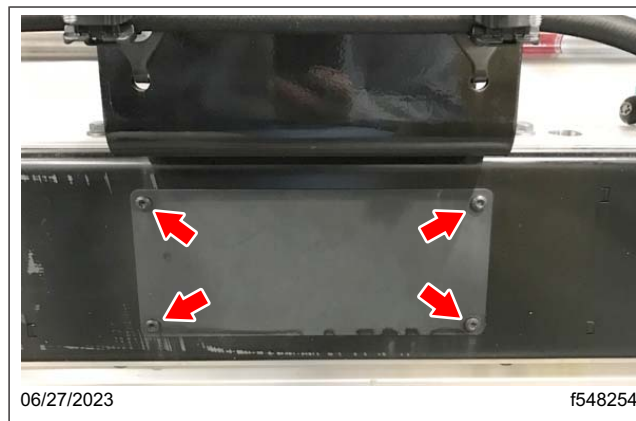

Fig. 6, Access Panel Mounting Fasteners Location
12. To access the mounting fasteners, remove the three access panels from each side of the battery pack (total six), using a torch bit. See Fig. 6.